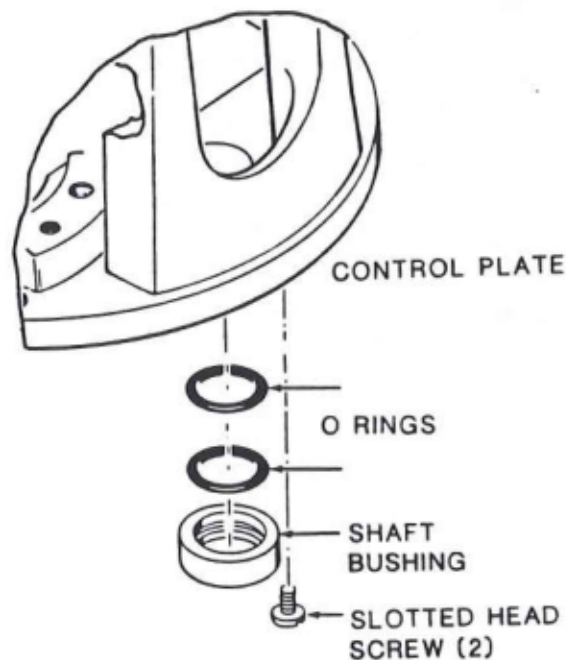

Figure 3-14. Upper Shaft Seals \*
- 1). Invert the control plate (606) so its bottom faces up.
- 2). Remove the two slotted head screws and two brass washers that hold the shaft seal bushing to the control plate (see Figure 3-14).